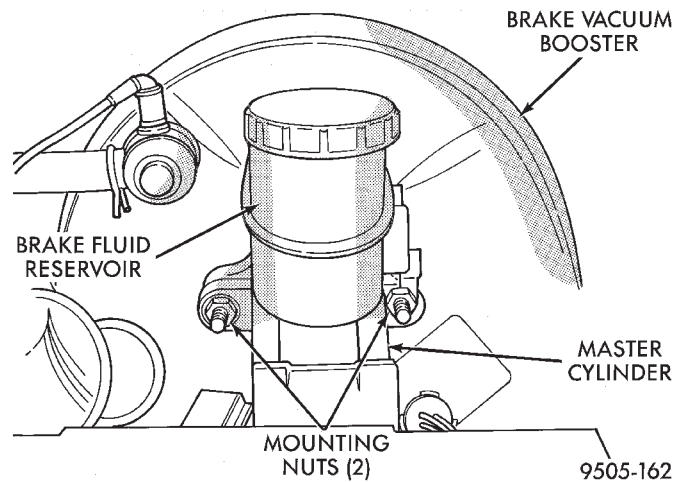
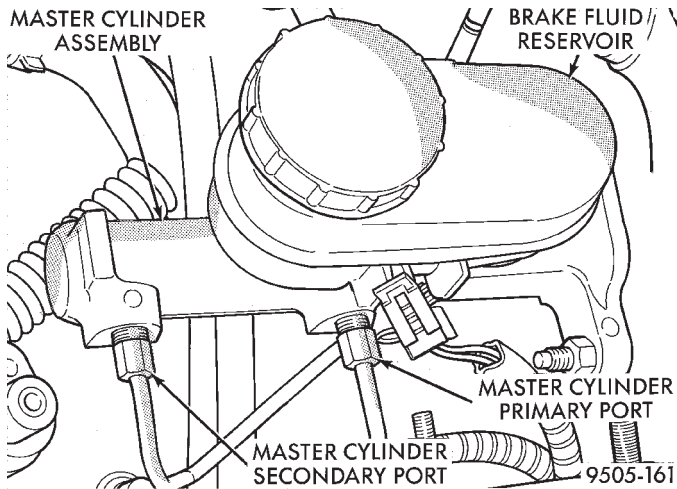
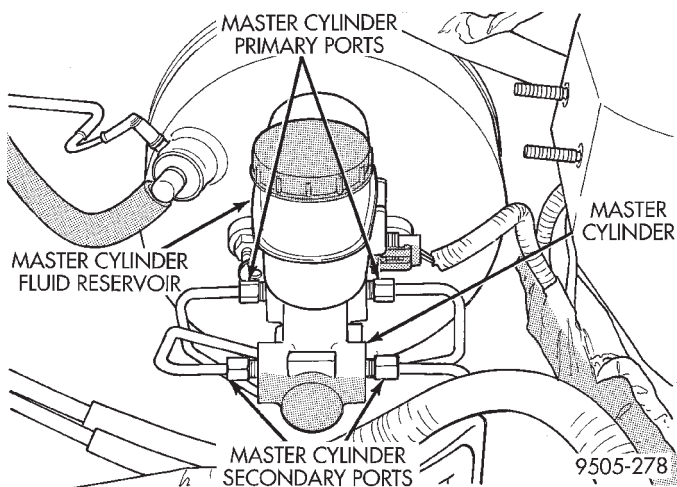

Fig. 46 Master Cylinder Mounting To Vacuum Booster
Fig. 44 Master Cylinder Primary And Secondary Ports With ABS
Fig. 45 Master Cylinder Primary And Secondary Ports With Out ABS
- (2) Disconnect the primary and secondary brake tubes from master cylinder outlet ports (Fig. 44) and (Fig. 45). Install plugs at all open brake tube outlets on master cylinder assembly.
- (3) Using Mopar, Brake Parts Cleaner or an equivalent, clean area where master cylinder attaches to booster.
- (4) Remove the 2 nuts (Fig. 46) attaching master cylinder assembly to power brake vacuum booster.
- (1) Position master cylinder assembly on studs of power brake unit, aligning push rod on power brake vacuum booster with piston of master cylinder.
- (2) Install the 2 master cylinder to power brake vacuum booster mounting nuts (Fig. 46). Tighten both nuts to a torque of 28 N·m (250 in. lbs.).